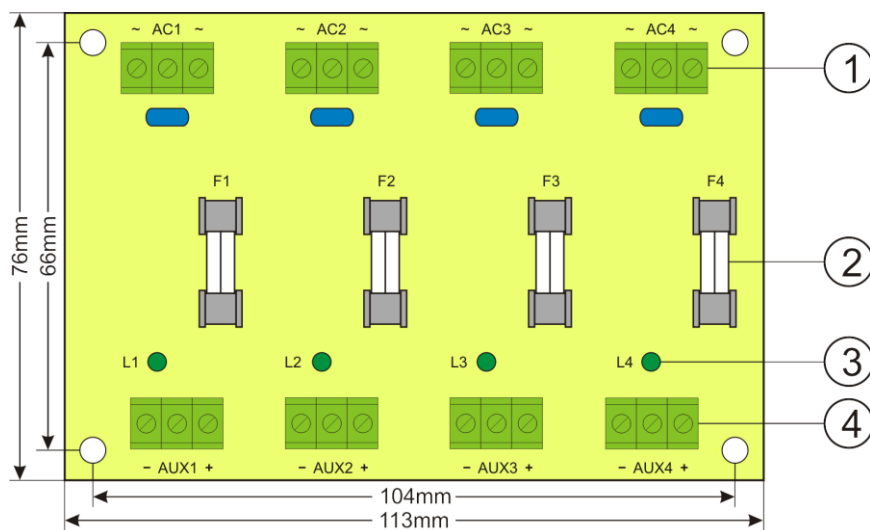

Fig. 2. The view of the LP4/SEP strip.
1.3 Description of components and connectors of the power supply (Table.1, Fig. 2).
Table 1. Components of the LP4/SEP strip (see Fig. 2).